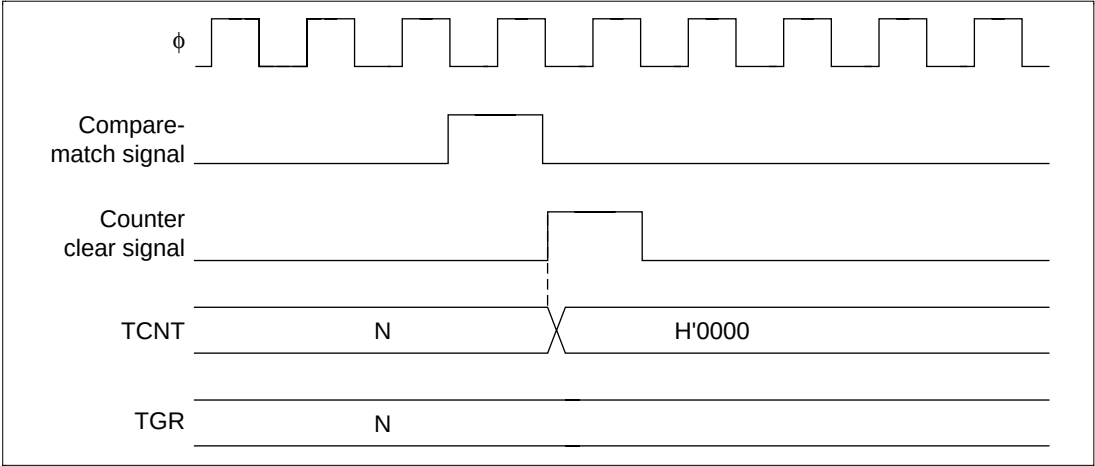
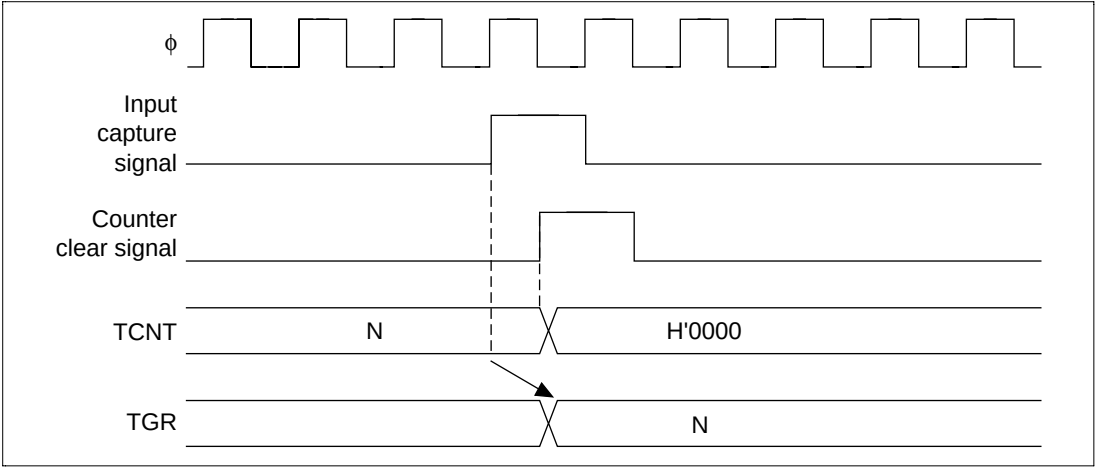

**Figure 12.65 Counter Clearing Timing (Compare-Match)**
**Figure 12.66 Counter Clearing Timing (Input Capture)**
**Counter Clearing Timing Due to Compare-Match/Input Capture:** Timing for counter clearing due to compare-match is shown in figure 12.65. Figure 12.66 shows the timing for counter clearing due to input capture.